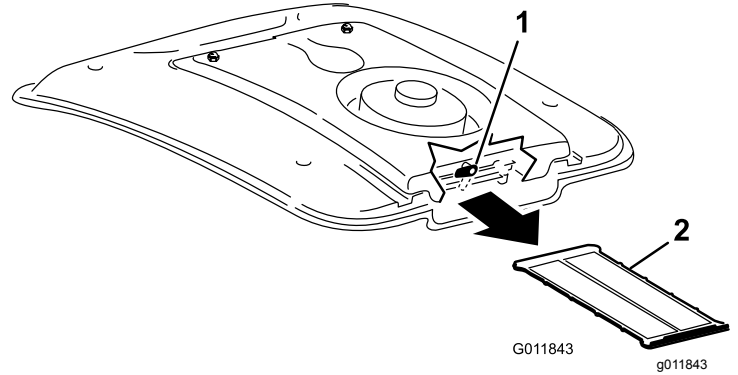

Figure 117
2. On the rear of the fan mount, rotate the latch to the side (Figure 117).
3. Slide the A/C screen out from under the air conditioning coil (Figure 117).
4. Clean the screen thoroughly with compressed air (Figure 117).